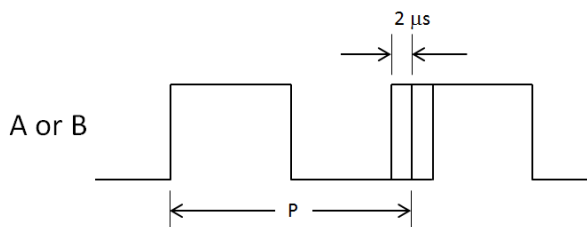

Figure 13: ABZ Jitter
The ABZ state is updated every $2\mu\text{s}$. This means that at a high RPM, an ABZ jitter is caused by the discretization of the pulse length. For instance, at 15,000 RPM, the period (P) of the signal A or B is $16\mu\text{s}$. Therefore, the jitter is $2/16 = 12.5\%$. Note that the raising edge of Z occurs exactly at the sensor zero position. Due to the 1 LSB hysteresis introduced on both the A and B channels, the Z edge is not necessarily synchronized with an A or B edge (see Figure 13).